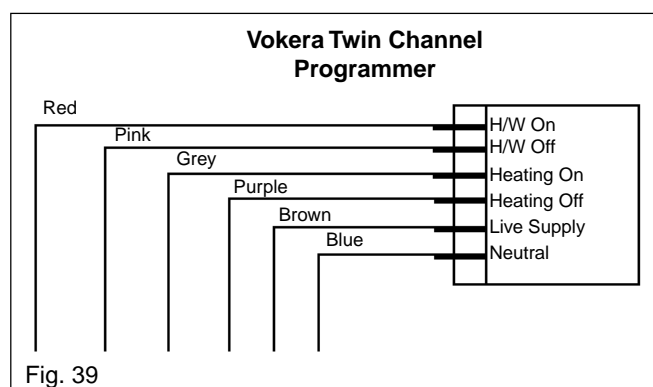

Fig. 39
8.2 INSTALLATION OF VOKERA TWIN CHANNEL PROGRAMMER (see fig. 39)
- Take the wires supplied with the programmer and connect them as shown in fig. 39